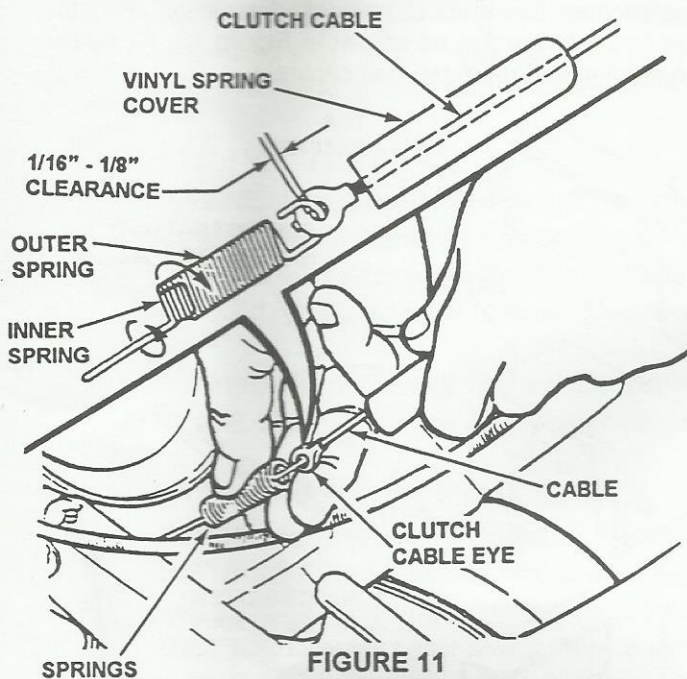

FIGURE 11
STEP 4: Check the clearance between the clutch cable and clutch spring. **NOTE:** Clearance between spring and cable is very important. Excessive clearance will cause drive system **NOT** to operate when wheel drive control handle is depressed. No clearance at all will cause mower to continue to propelling itself when wheel drive control handle is released to stop mower movement. Slide vinyl spring cover (located at the end of clutch cable) up clutch cable to gain access to the end of spring and cable loop. With wheel drive control handle released, clearance between spring hook and cable loop should be $1/16"$ to $1/8"$. If clearance is more or less than specified, unhook spring from clutch cable eye, then adjust by turning inner spring in an opposite direction than the outer spring. Rehook spring to clutch cable eye. Slide vinyl cover over the spring when correct clearance is reached. See Figure 11.